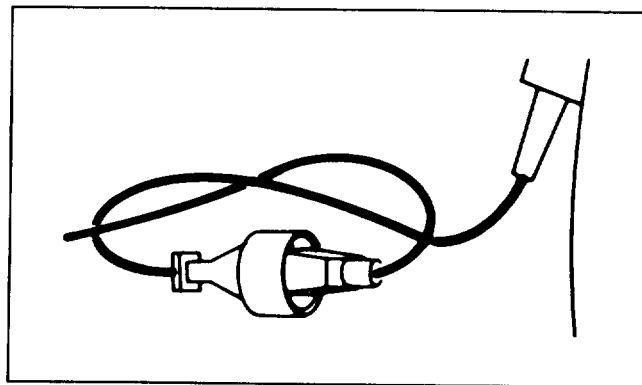

Figure 2
11. Properly connect extension cord to power supply cord to prevent disconnection of the cords (Fig. 2).
1. Secure the power supply cord and a suitable extension cord as shown in Figure 2.